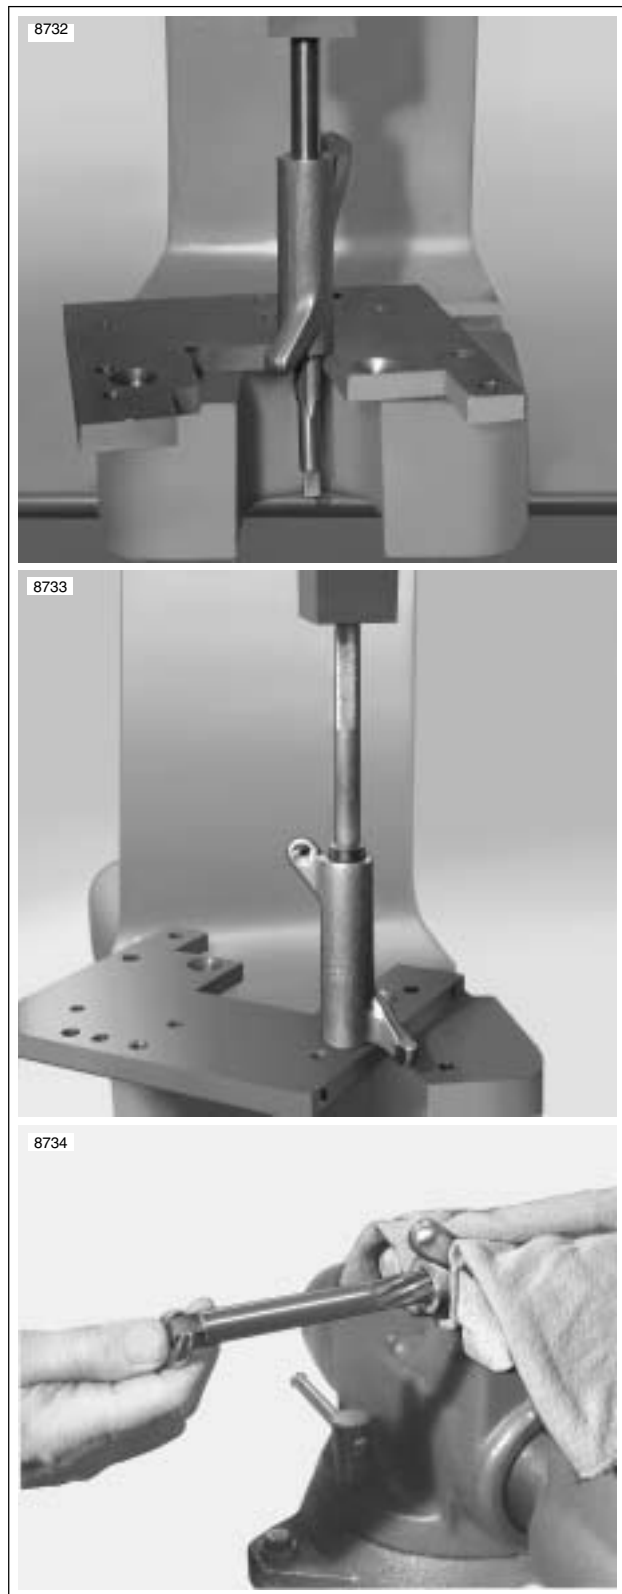

Figure 3-73. Replacing Rocker Arm Bushings
1. See Figure 3-73. To replace worn bushings, press or drive them from the rocker arm. If bushing is difficult to remove, turn a 9/16-18 tap into bushing. From opposite side of rocker arm, press out bushing and tap using a discarded rocker arm shaft.